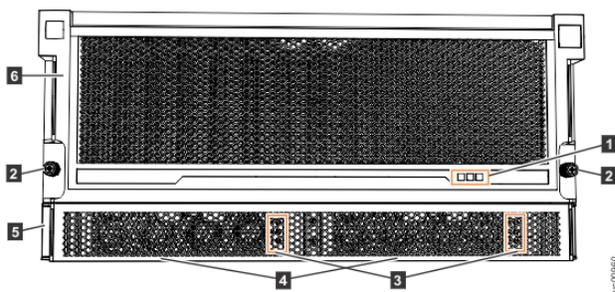
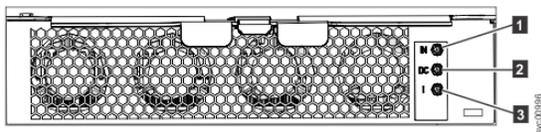

Figure 193. LEDs on the front of the expansion enclosure
Figure 194. LEDs on the front of a power supply unit
As Figure 193 on page 244 shows, the front of the 5U expansion enclosure contains LEDs for the display panel (1) and for each of the power supply units (3).
The 5U expansion enclosure contains two PSUs (4) in Figure 193 on page 244) that are accessible from the front of the enclosure. Each PSU has its own a set of LEDs, as shown in Figure 194 on page 245.